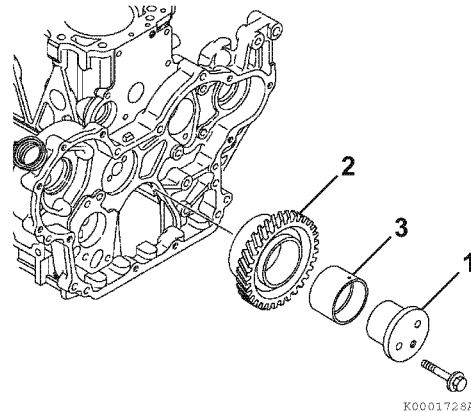

Figure 6-148
3. Lubricate the idler gear (2, Figure 6-148), bushing (3, Figure 6-148) and idler gear shaft (1, Figure 6-148) with clean engine oil.